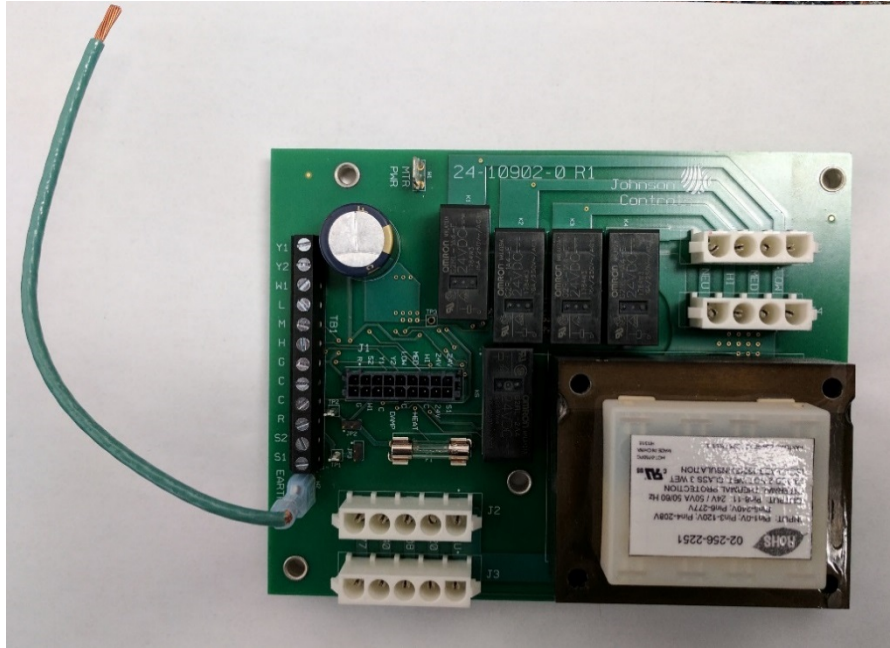

Figure 22 – Install WH1 on EARTH of FRBii
14. Connect ground to FRBii (see Figure 22)
- a. Install the female quick-connect end of wiring harness WH1 to the EARTH male terminal on the FRBii (see Figure 22).